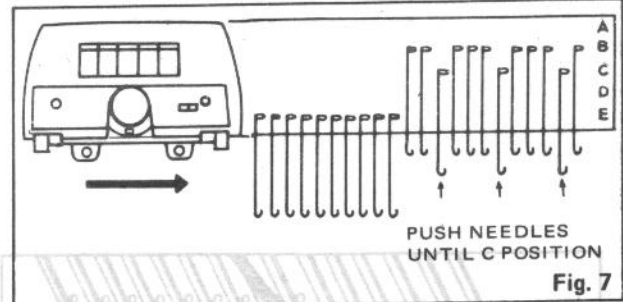

Fig. 7
5. After passing the knitting yarn underneath the needle next to the last needle knitted, push the needles which have tucked stitches at E position to C position as shown in Fig. 7, and knit one row.